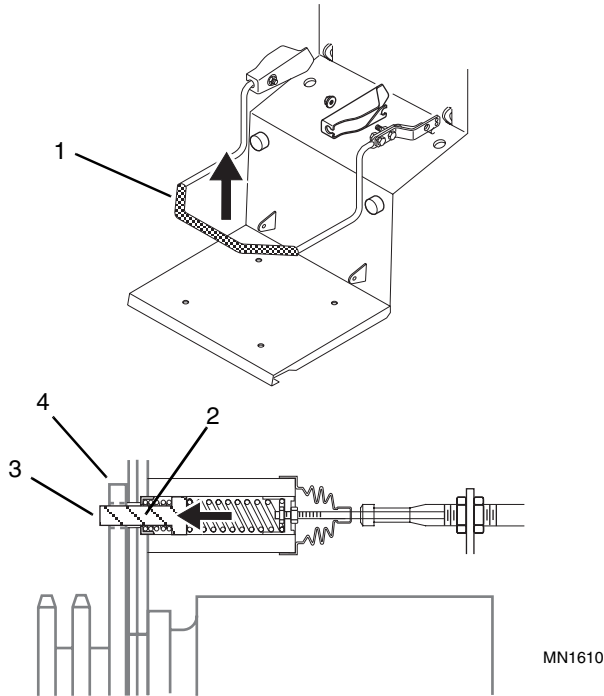

Figure 9-83 Park Lock - Engaged
19. Raise seat bar (Fig. 9-83, 1).
20. Inspect to see that both pins (Fig. 9-83, 2) have fully extended through the hole (3) in its respective drive sprocket (4).